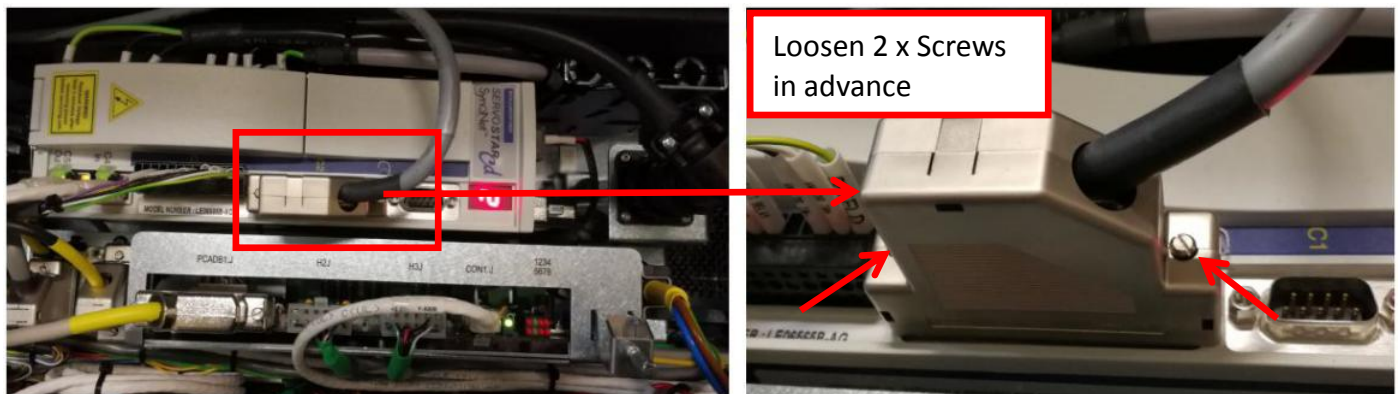

Figure 4
7. Disconnect Y-Axis Motor Rotary Cable as Figure 4